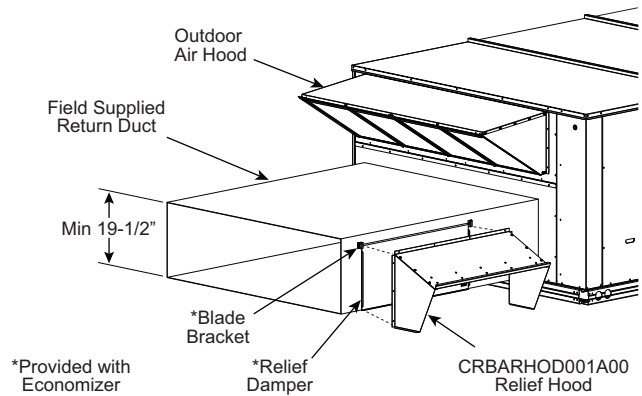

Fig. 35 — Installing CRBARHOD001A00 Over Relief Damper
4. Using the blade brackets, install the relief damper onto the side of the return duct (see Fig. 35). The two brackets and relief damper are provided with the economizer.
Caulk the backside of the mating flanges to ensure a watertight seal. Install the CRBARHOD001A00 over the relief damper and screw to the return duct, as illustrated in Fig. 35.